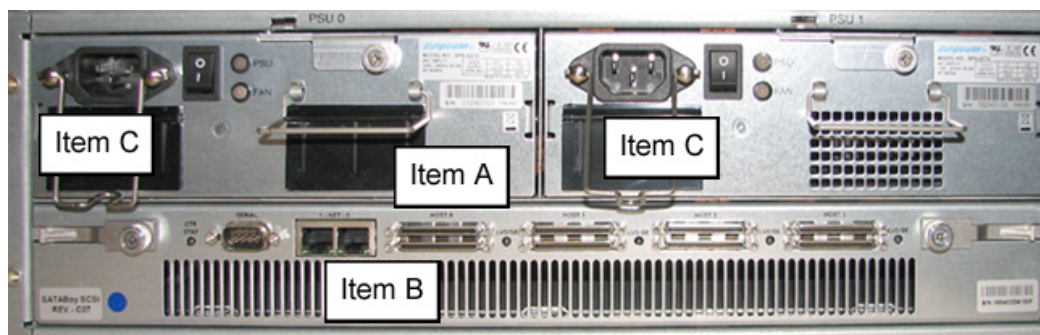

Figure 2 - Back of the Nexsan SATABoy
- C. Plug the other end of the SCSI cable into the storage device's upper *left* disk "0" (zero) channel (see Figure 2, Item A).
- D. Plug the other end of the CAT-5E crossover cable into the storage device's port "0" (zero) on the right (see Figure 2, Item B).
- E. Plug the storage device's AC power cords into the back of the unit (see Figure 2, Item C).